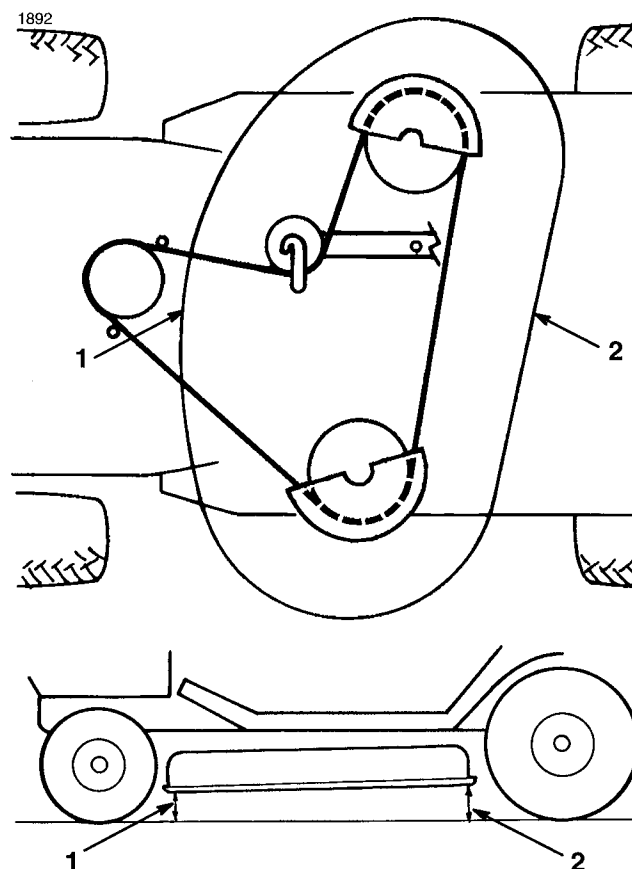

Figure 52
4. Check the front-to-rear slope by measuring between the bottom of the mower (front center and rear center) and the flat surface (Fig. 52). If the front of the mower is more than 3/16" (4.762mm) lower than the rear of the mower, an adjustment is required.